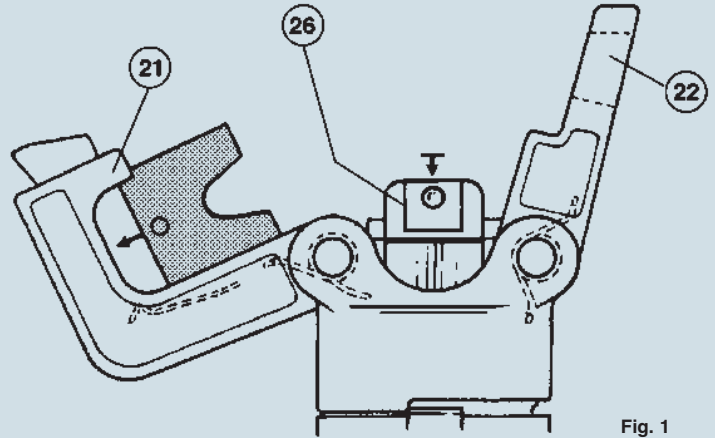

Fig. 1
"GO" - Insert the end of the gauge as shown (Fig. 1).
With reference to Figures 1 and 2, select a pair of matrixes suitable to the type of contact and insert them in the housings: one in the matrix support (21), the other one in the matrix pusher support (26). (NB: the two matrixes of each pair are the same). Insert the contact by resting it in the locator with the tip forward, then close the head. The contact crimp housing will be accessible in the mouth between the matrixes.
“GO” - Insert the end (green) of the gauge as shown (Fig. 1). The gauge must pass freely between the indenter tips.